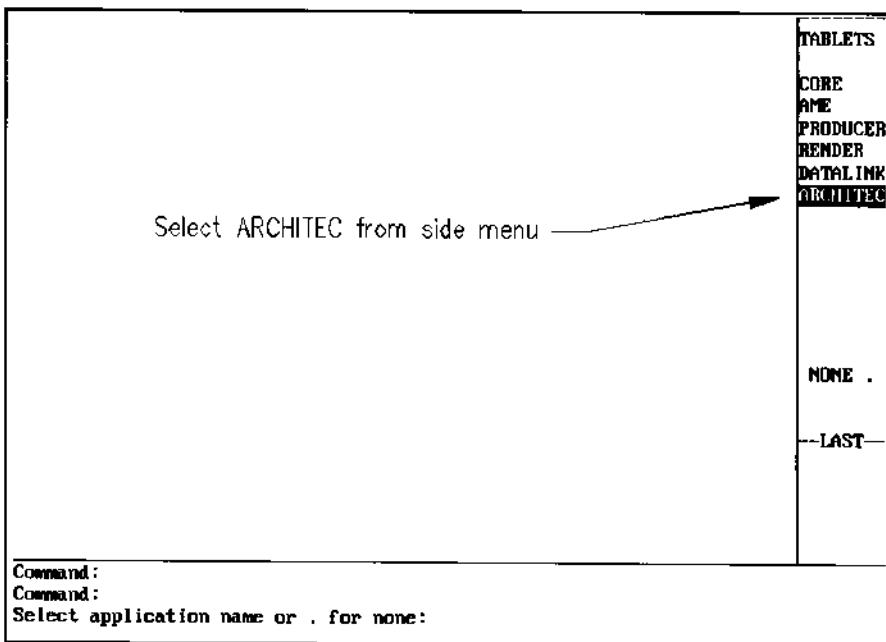
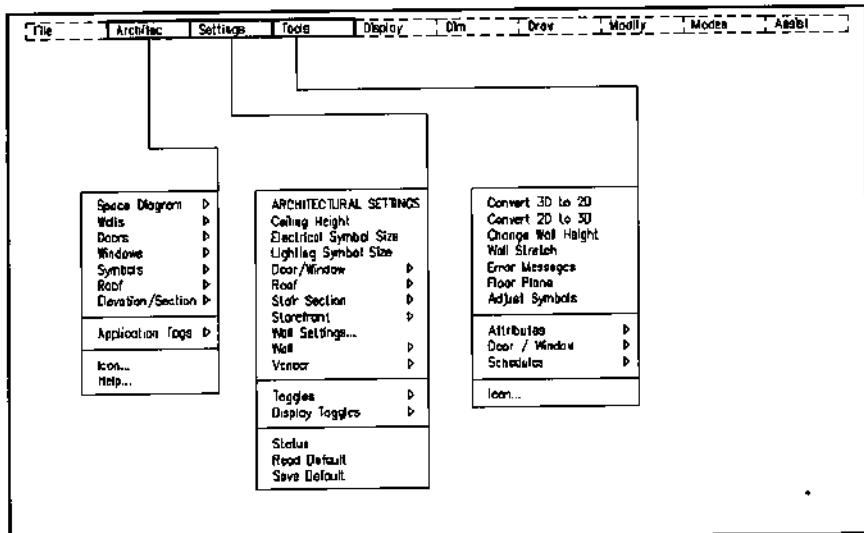

Figure 16.
Figure 17.
2. Select and load the ASG Architectural module by picking AutoLoad from the File pull-down menu and then picking ARCHITEC from the side screen menu list at the "Select Application..." prompt as shown in Figure 16. This expands the menu items, inserting menu headings for Architec, Settings, and Tools. An overview of the ASG Architectural pull-down menus is shown in Figure 17.